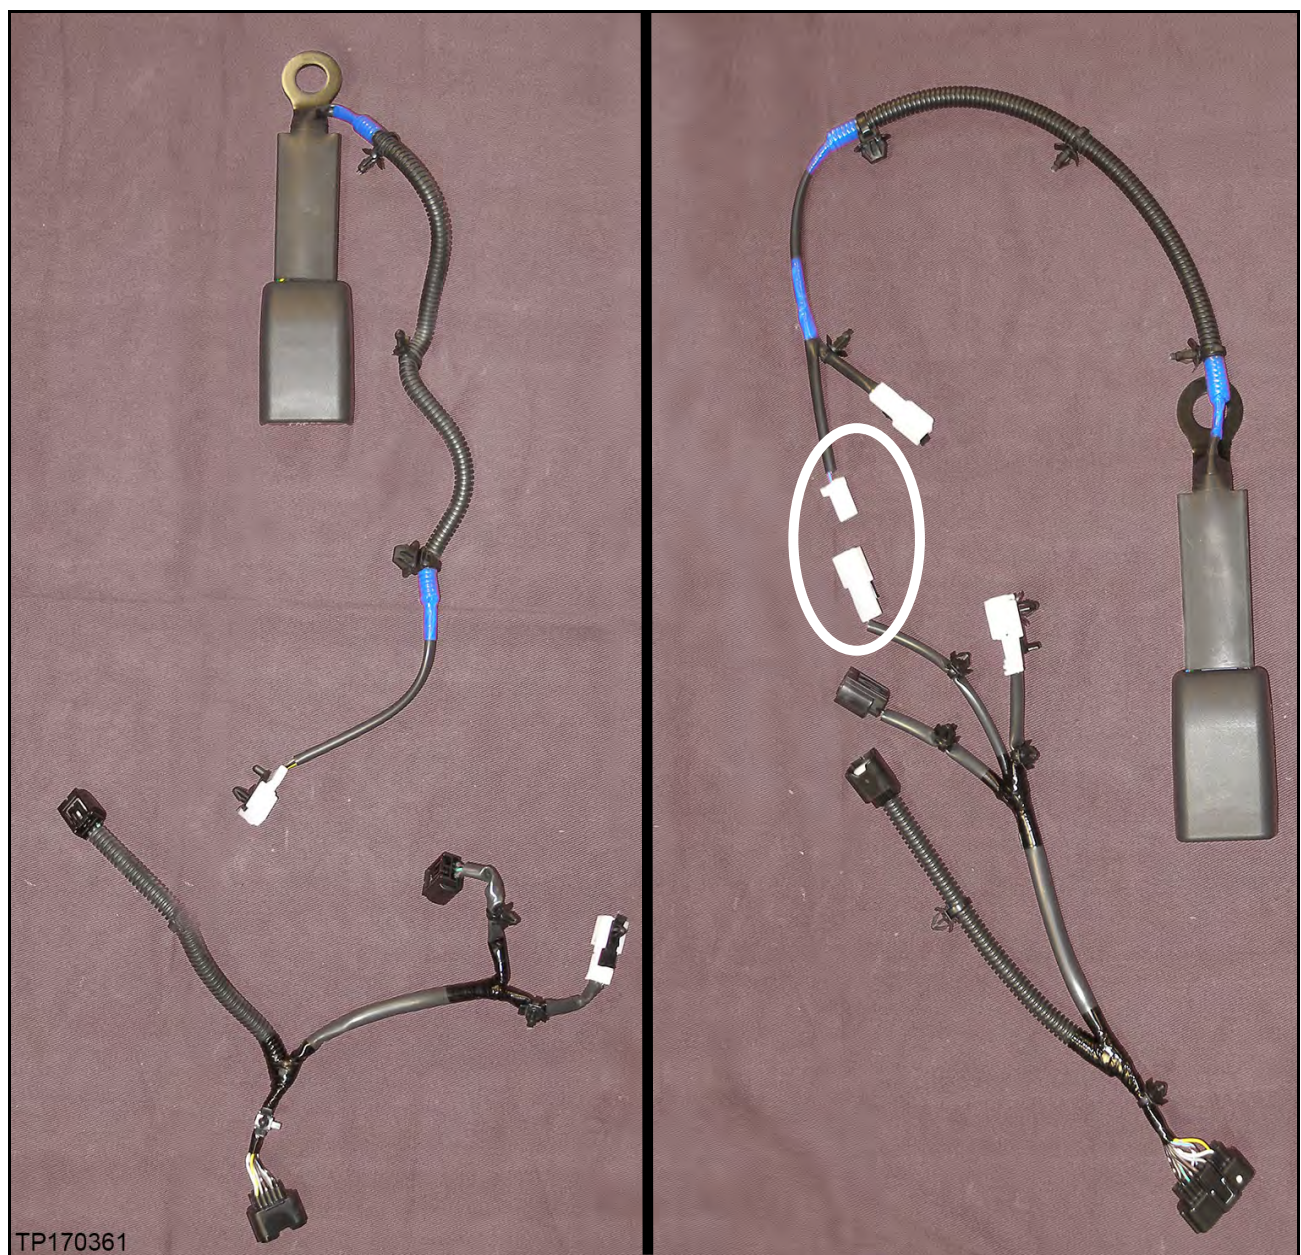

Figure 9
- Figure 9 shows the old and new parts.